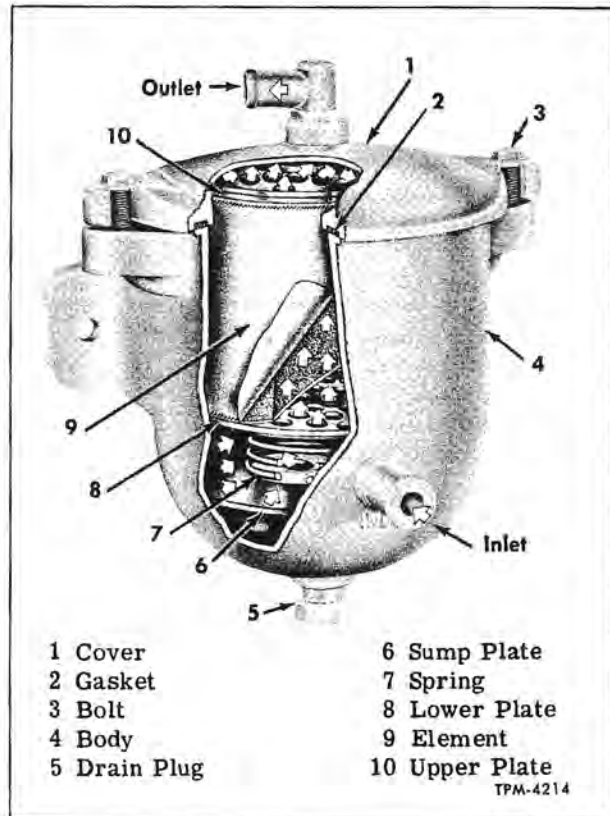

Figure 5—Sectional View of Water Filter
**NOTE:** Key numbers in text refer to figure 5.
2. Remove two bolts (3) which attach cover (1) to filter. Remove cover and cover gasket (2).
3. Remove drain plug (5) from bottom of filter.
4. Remove upper plate (10), element (9), lower plate (8), spring (7), and sump plate (6) from filter body (4). Flush out filter body.
6. Referring to illustration, position sump plate (6), spring (7), lower plate (8), new element (9), and upper plate (10) in filter body (4). Install cover (1) using new gasket (2). Tighten cover attaching bolts evenly and firmly.